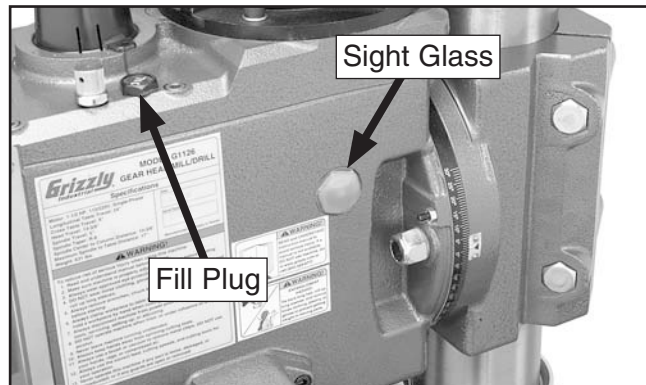

Figure 68. Location of oil fill plug.
1. Remove the oil fill plug (**Figure 68**) using a 22mm wrench.
3. Reinstall the drain plug, fill the gear box with the 10W30 non-detergent oil until the sight glass (see **Figure 68**) is $\frac{3}{4}$ full, then re-install the oil fill plug.